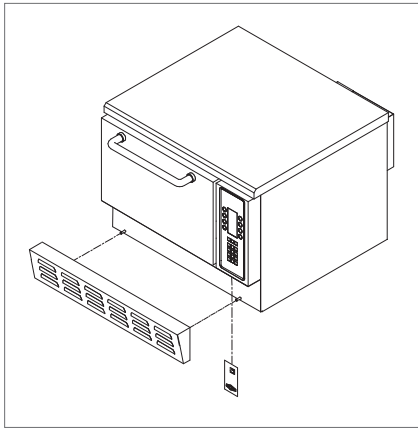

FIGURE 14: Inserting Smart Card
3. Remove the lower access panel (Figure 14).
4. Insert smart card into oven (Figure 14).